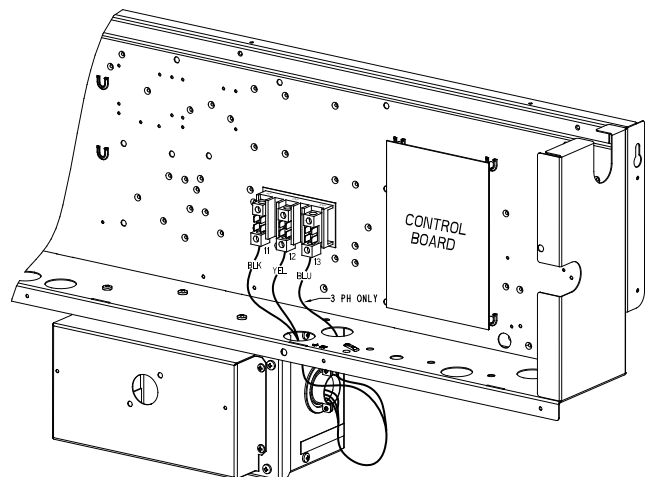
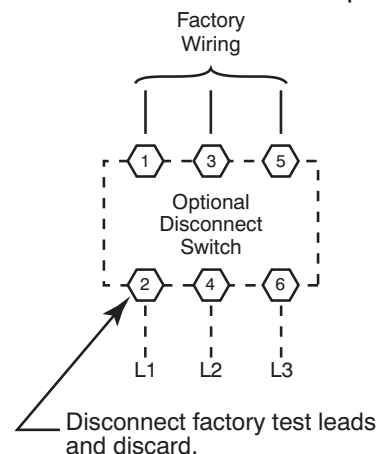

Fig. 47 — NFD Enclosure (Sizes 07-14)
Fig. 49 — Power Wiring Connections (Sizes 07-14)
Field power wires are connected to the unit at line-side pressure lugs on compressor contactor C and indoor fan contactor IFC (see wiring diagram label for control box component arrangement) or at factory-installed option non-fused disconnect switch. Max wire size is #4 AWG (copper only). (See Fig. 49.)
The factory-installed optional non-fused disconnect (NFD) switch is located in a weatherproof enclosure located under the main control box (see Fig. 47). The manual switch handle and shaft are shipped in the disconnect enclosure. Assemble the shaft and handle to the switch at this point. Discard the factory test leads (see Fig. 49).
1. Remove the control box access panel. The NFD enclosure is located below the control box (see Fig. 47).
All field wiring must comply with NEC and all local codes. Size wire based on MCA (Minimum Circuit Amps) on the unit informative plate. See Fig. 49 and the unit label diagram for power wiring connections to the unit power terminal blocks and equipment ground. Maximum wire size is #4 ga AWG per pole.
2. Install power lines to terminal connections as shown in Fig. 49.